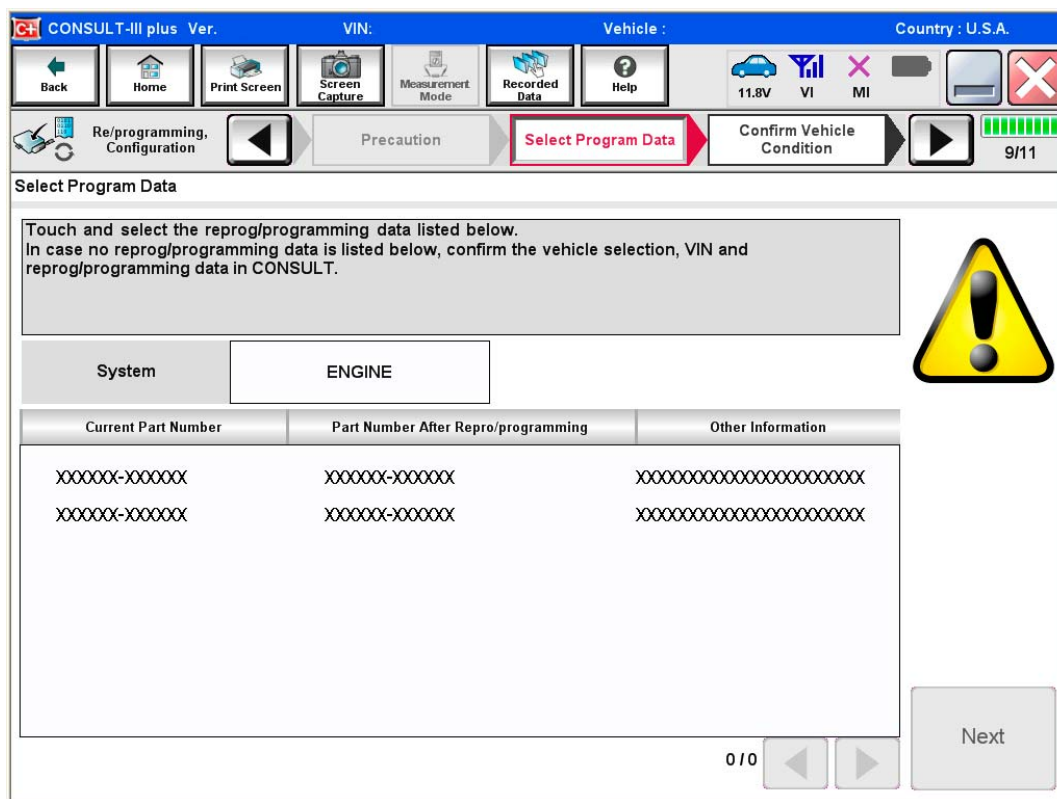

Figure 5
- In this case, the screen in Figure 5 displays.